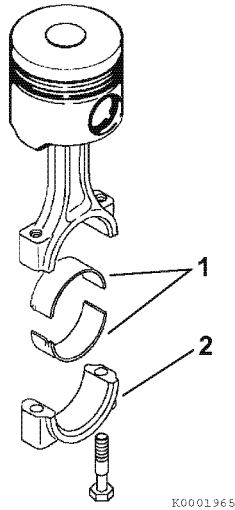

Figure 6-92
4. Reinstall the bearing inserts (1, **Figure 6-92**) in the connecting rod and cap.
6. Apply a light coat of clean engine oil to the rod cap bolts. Reinstall the connecting rod cap (2, **Figure 6-92**). Tighten the connecting rod bolts to the specified torque in two stages (1/2 then full torque). *See Special Torque Chart on page 6-10 for specifications.*